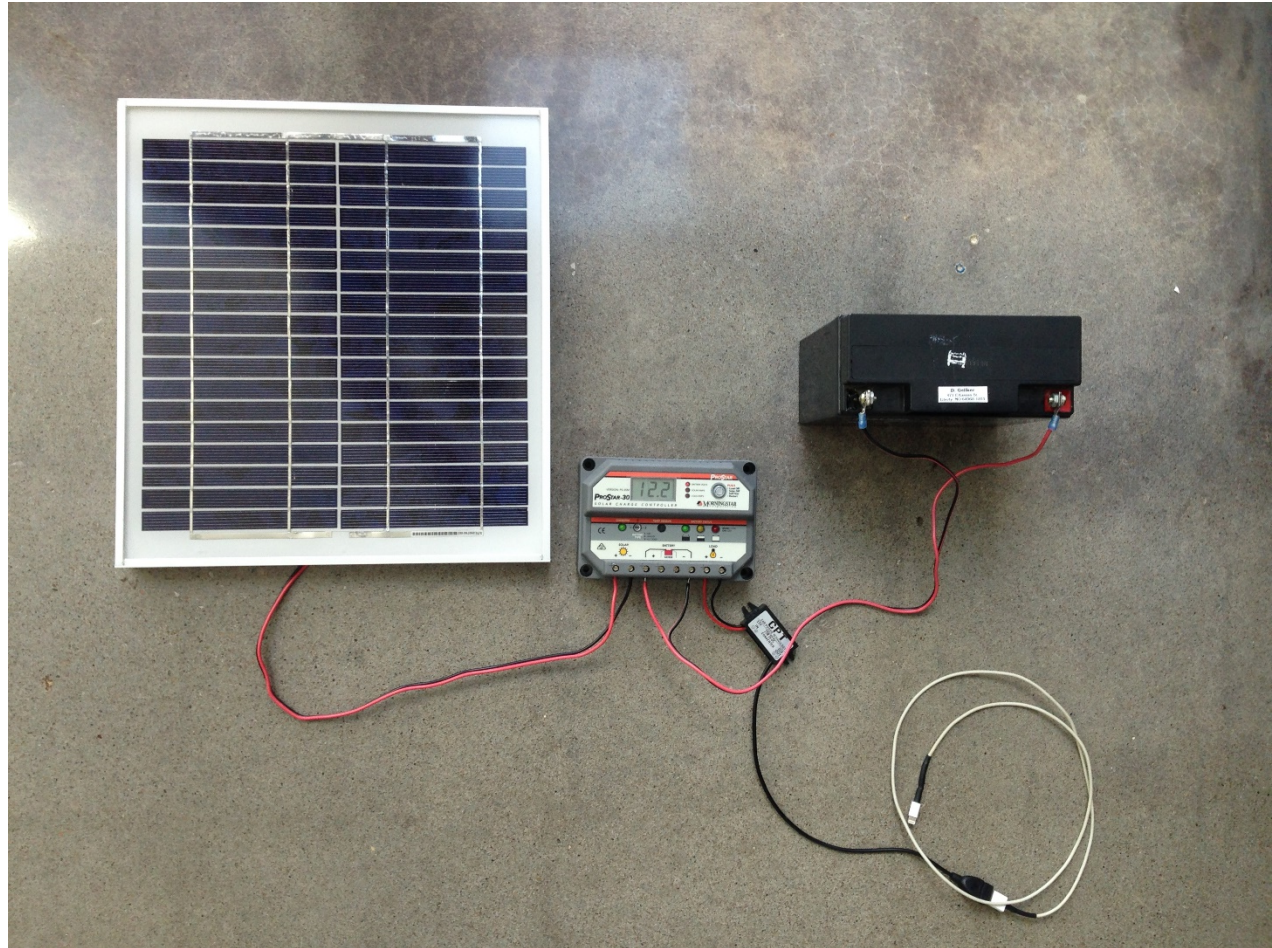

Figure 3
1. Connect the charger controller, 10 W solar panel, and 12 V to USB converter as shown in Figure 3.